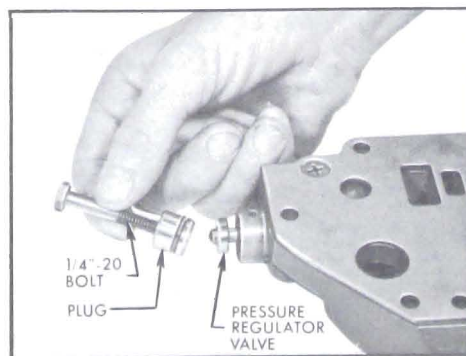

Figure 5-72—Removing Large Pressure Regulator Valve Plug
4. Cover the large pressure regulator valve plug with a wadded rag and pull the plug retaining pin out of the valve body. Use extreme care during this operation as the plug will be ejected with considerable force. Remove the two springs and spring seat. See Figure 5-72.